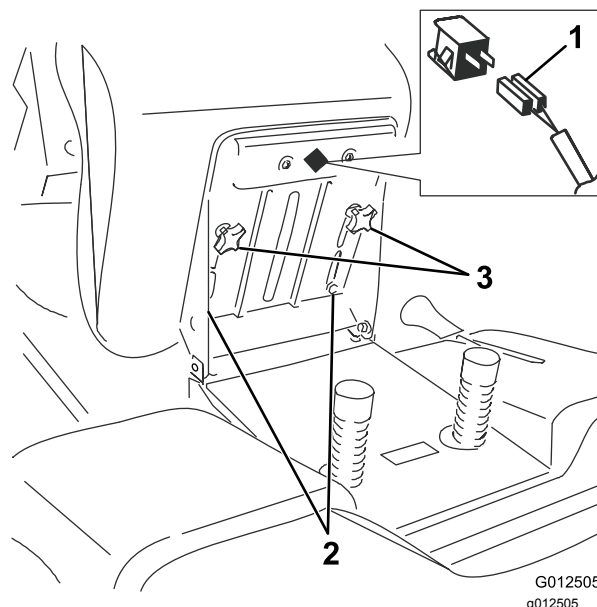

Figure 1
3. Install the 2 adjusting knobs and washers (Figure 1).
4. Ensure that the safety switch is connected to the seat (Figure 1).
2. Set the seat in place and secure it with the 2 bolts, spring washers, and flat washers (Figure 1).